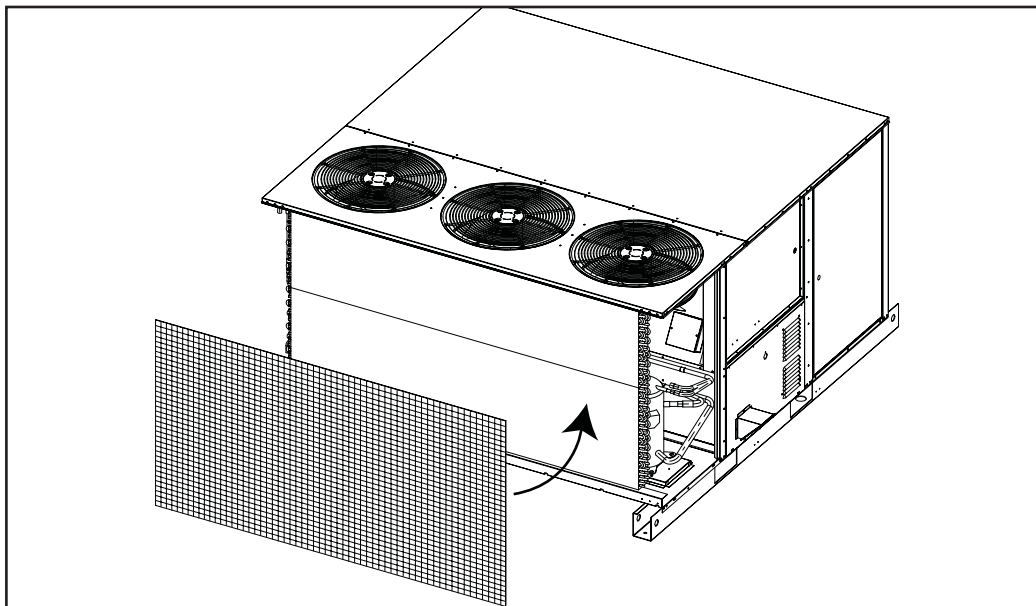

Figure 1.
3. Carefully remove both Condenser Corner Posts from the unit and set screws aside for later use. See Figure 1.